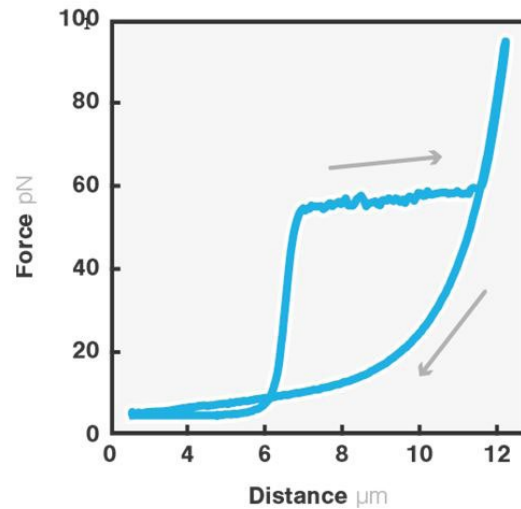

Figure 1
- When retracting the DNA back to the original position, you should see that the curve follows the freely-jointed chain model (backward curve) instead of the standard worm-like chain model (forward curve) shown in Figure 1.